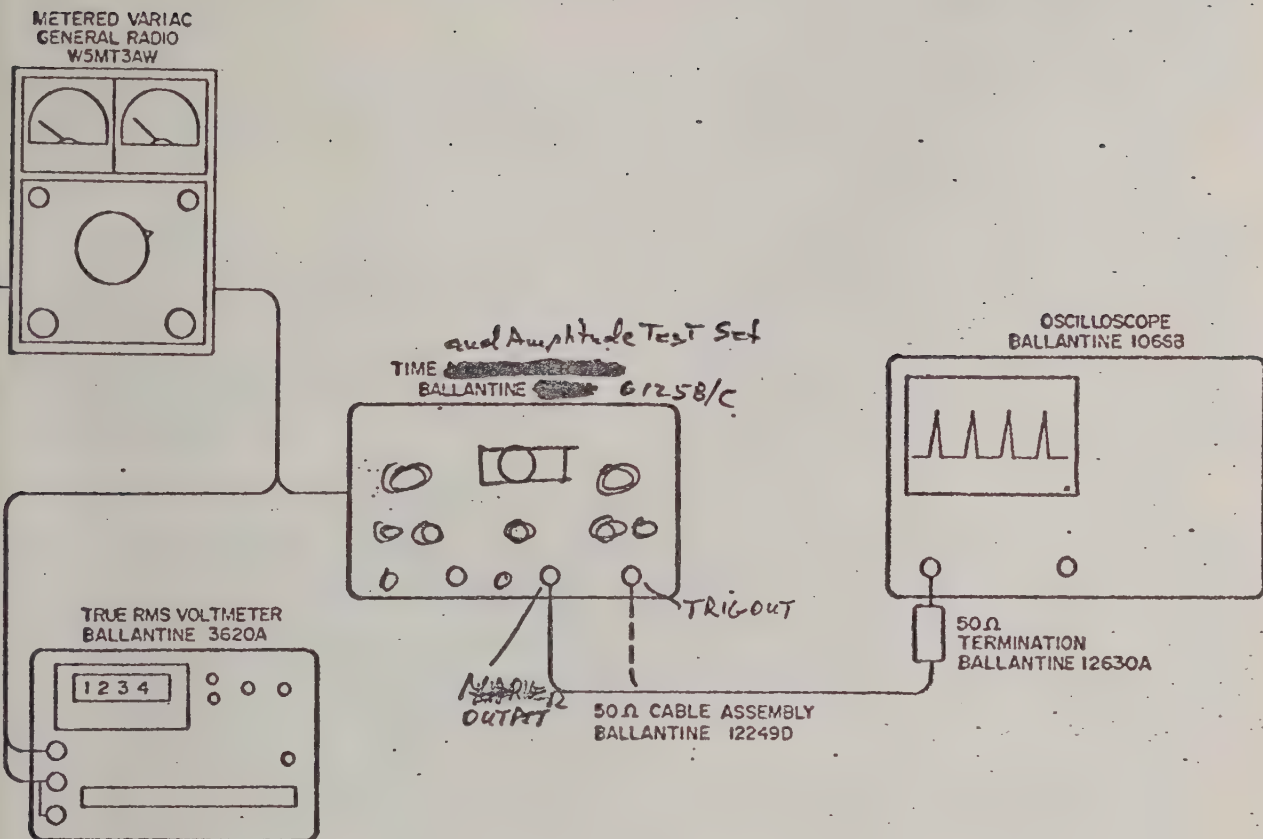

Figure 5-3. Trigger and Marker Amplitude Check, Bench Test Setup
a. Interconnect the generator and the test equipment as shown in Figure 5-3.
a. Continue with the control settings of paragraph 5-10 and the test setup of Figure 5-3, except disconnect the cable from the MARKER OUTPUT connector and reconnect it to the TRIGGER OUT connector. Also, set the Trigger PERIOD to 100 nS and the oscilloscope TIME/CM switch to 1 μ s, and activate the X10 MAG knob for X10 magnifier position for a sweep of 0.1 μ s/cm.